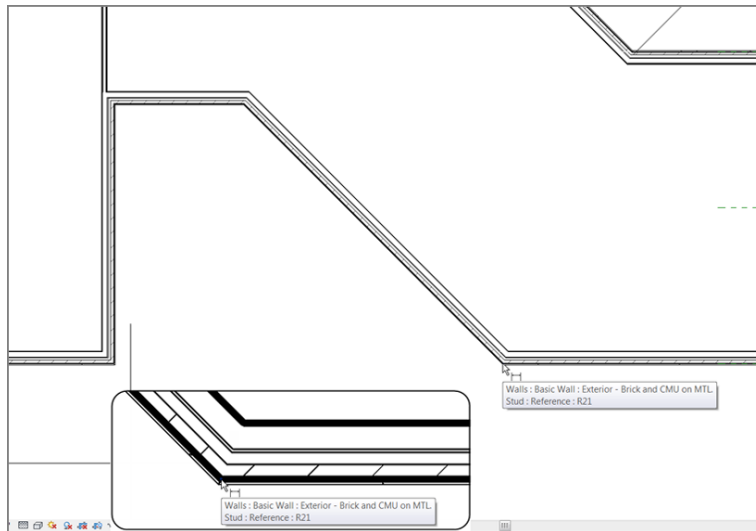

FIGURE 5.16: Select the finished exterior corner of the brick. You'll see a small blue dot appear, indicating that you can pick the start of the dimension.
3. Move your cursor over the inside corner, at the bottom intersection of the corridor. Make sure you're exactly over the exterior intersection of the brick. You'll know you're there when the blue dot appears, as shown in Figure 5.16.